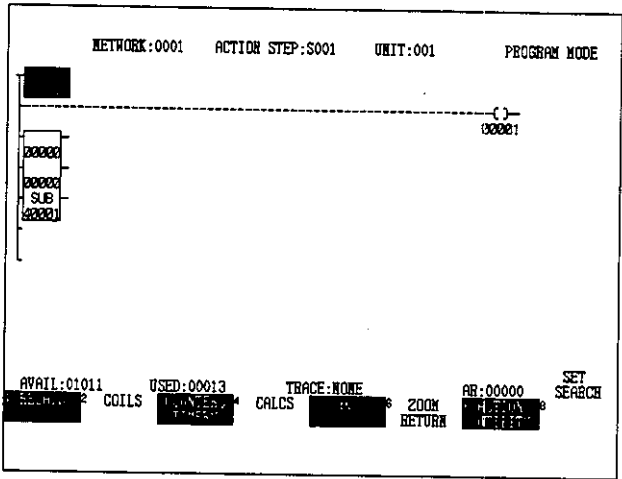

Figure 7.129
(2) If the circuit has not been stored, the screen will show the network as "00000."
(3) To display the previous network, press the Page Up Key.
(4) It is possible to display the network in the action circuit only by using the procedure in step 2).
(5) The normal ladder circuit network can be displayed if only the Page Down operation with the network number is performed.
(6) To revert to the main SFC Screen from the screens shown in *Figures 7.129 and 7.130*, select Zoom Return.
(7) If the Zoom Up operation is performed from the macro step, the SFC Screen of the macro step will be displayed because there is no action circuit in the macro step .